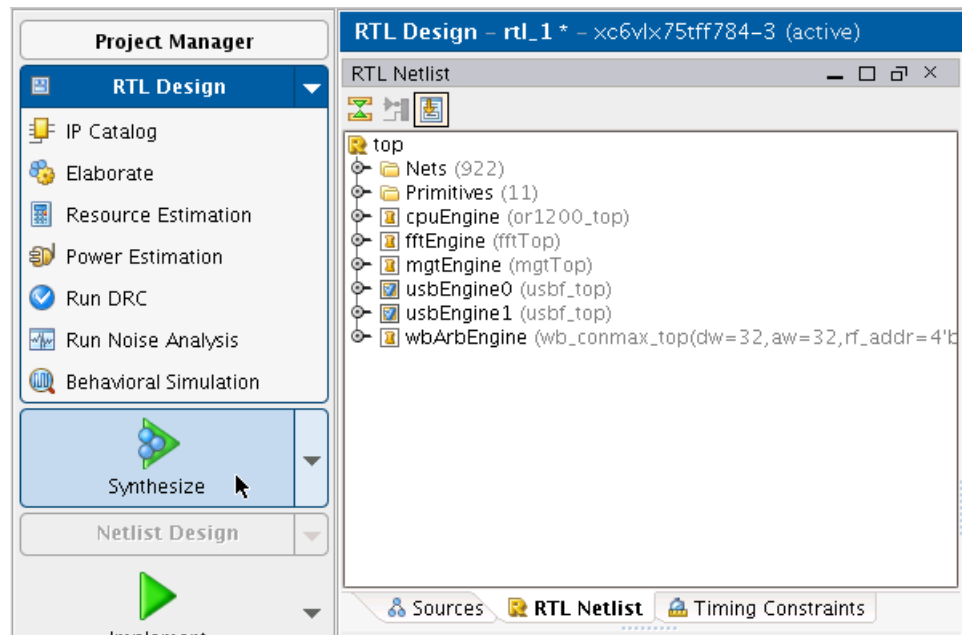

Figure 1-6: Launch XST Incremental Synthesis
1. To launch synthesis, click the big **Synthesize** button in the Navigator pane. To set specific XST options or check the settings on the partitions, the pull-down menu on the right side of the Synthesize button can be used. Simply click the down arrow and select **Synthesis Settings**. For this design the defaults are fine, so just click the big green synthesis button as shown in Figure 1-6.